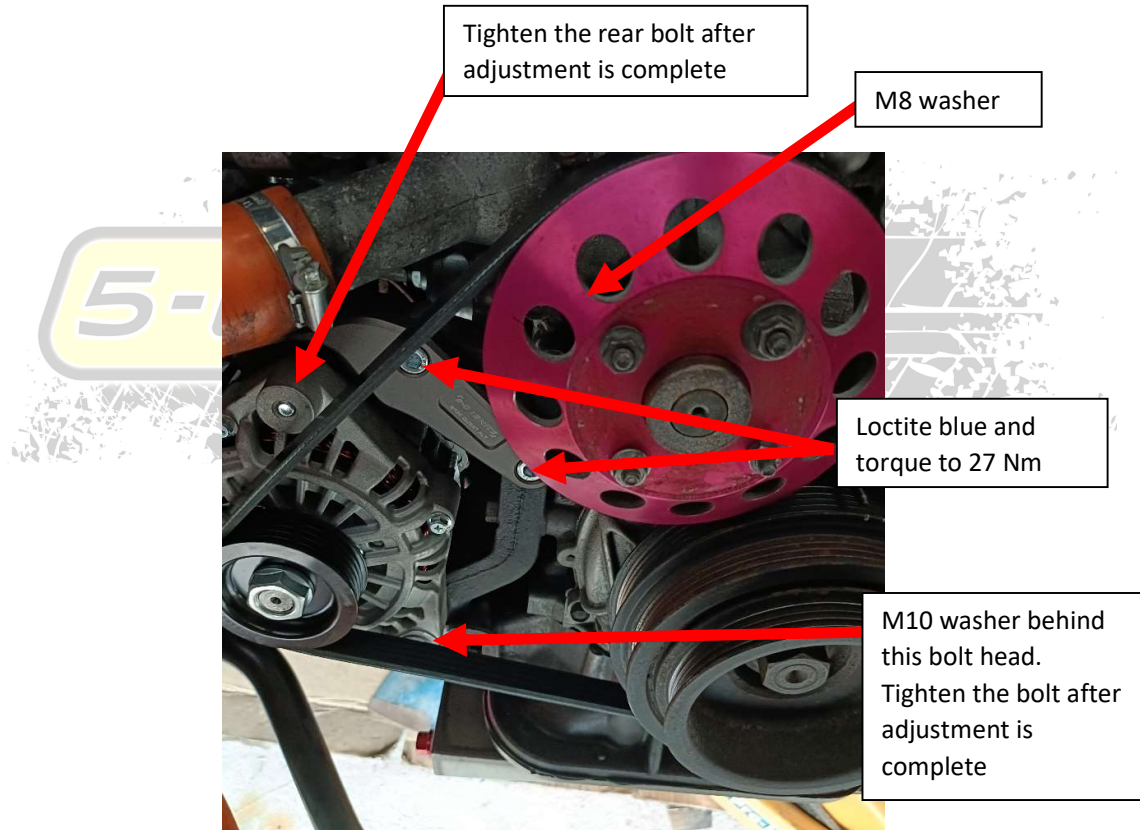

Figure 5 - Install the Alternator and the Mounting Adapter
8. Install the alternator to your engine. Apply loctite to the top mounting bracket bolt threads but do not tighten completely. Swing the alternator to its full adjustment range back and forth to align the bracket then torque upper mounting bracket bolts to ~27Nm (figure 5).